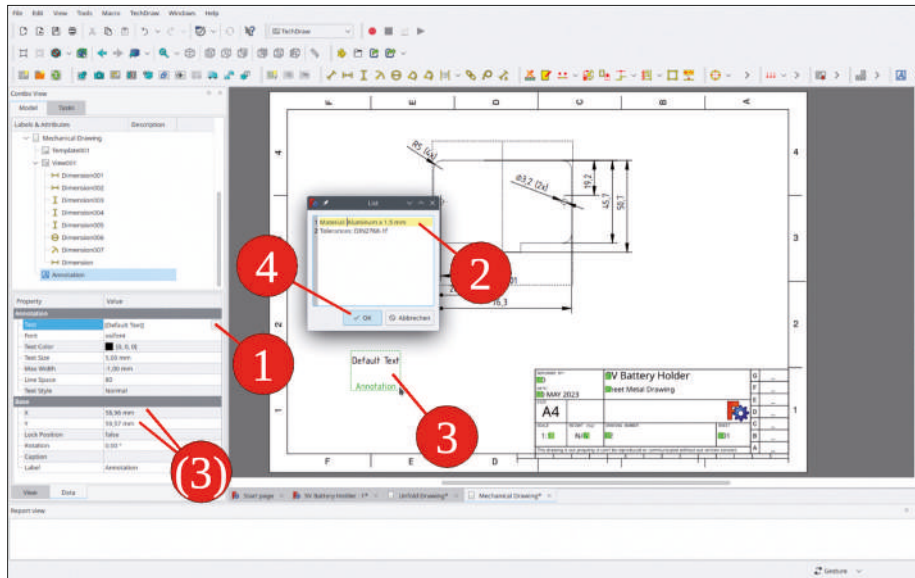

Figure 5-43
16. The text of the annotation can be modified by clicking the property list entry for 'Text', and subsequent clicking the  button to the right. A dialog opens, into which the text can be entered. Type some additions for the material and the tolerances, as shown in Figure 5-43.